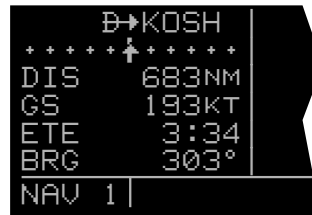
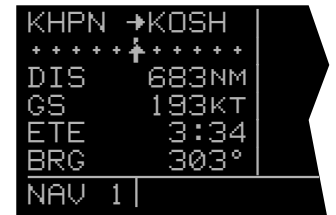

Figure 3-97
Figure 3-98
A NAV 1 page is shown in figure 3-97. A NAV 1 page displays the following information:
- The active navigation leg. For Direct To operation this consists of the Direct To symbol, \rightarrow , followed by the active Direct To waypoint identifier (figure 3-97). For the leg of a flight plan this consists of the "from" waypoint identifier and the active "to" waypoint identifier (figure 3-98). An arrow (\rightarrow) precedes the active waypoint identifier.